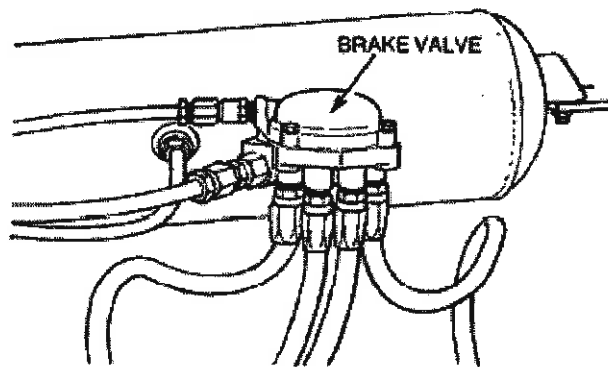

Figure 27 Spring Brake Relay Valve (CA41)
- f. Tag and remove the four spring brake hoses from the PARC valve (Figure 27).